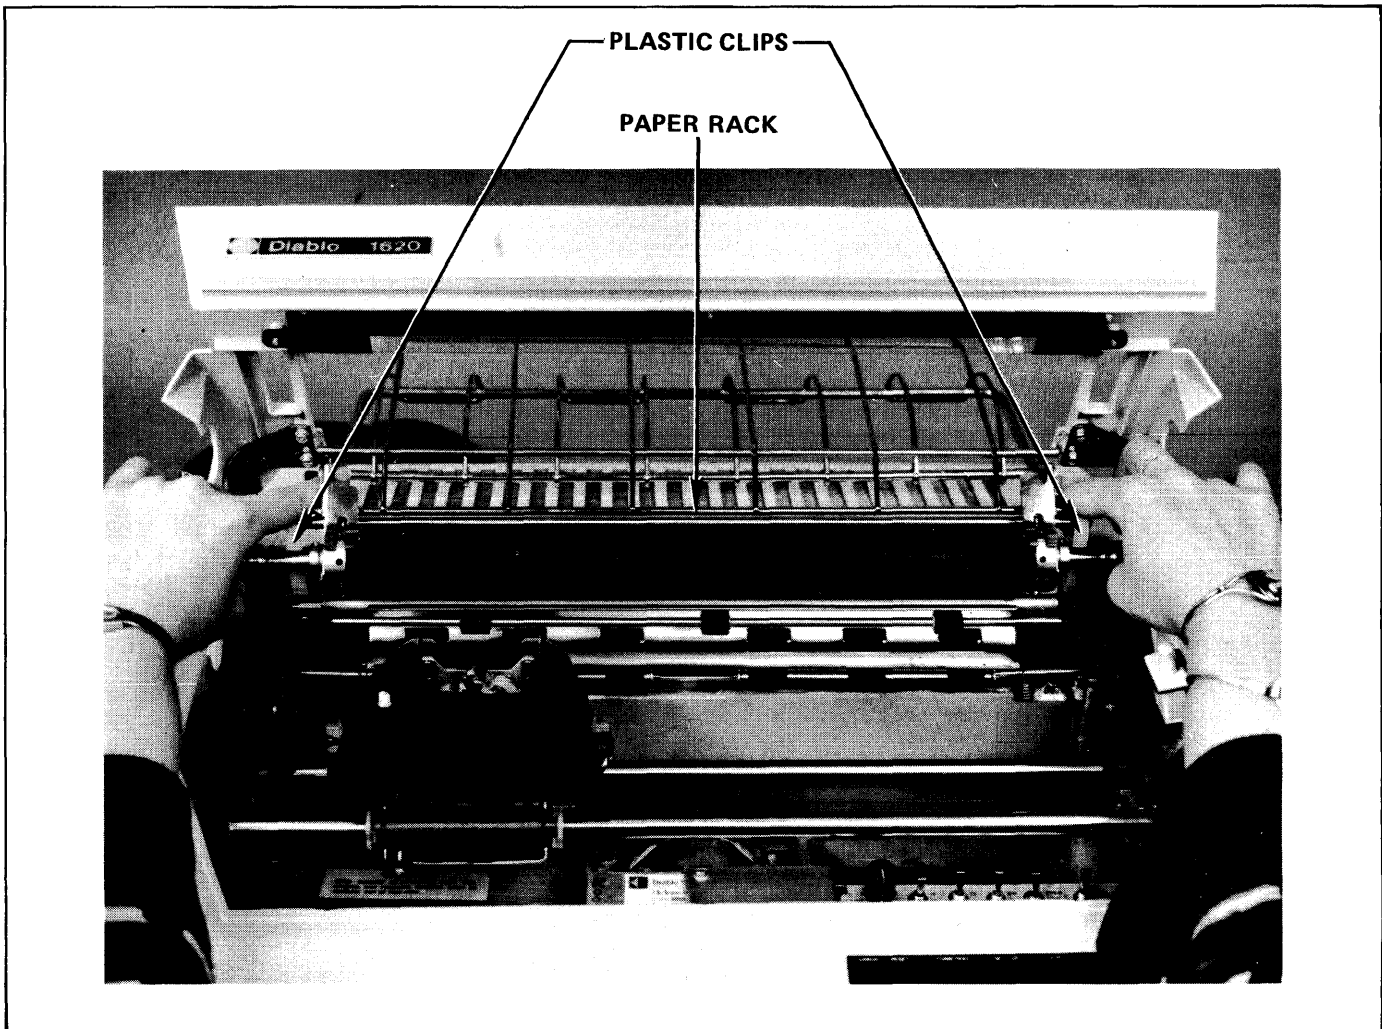
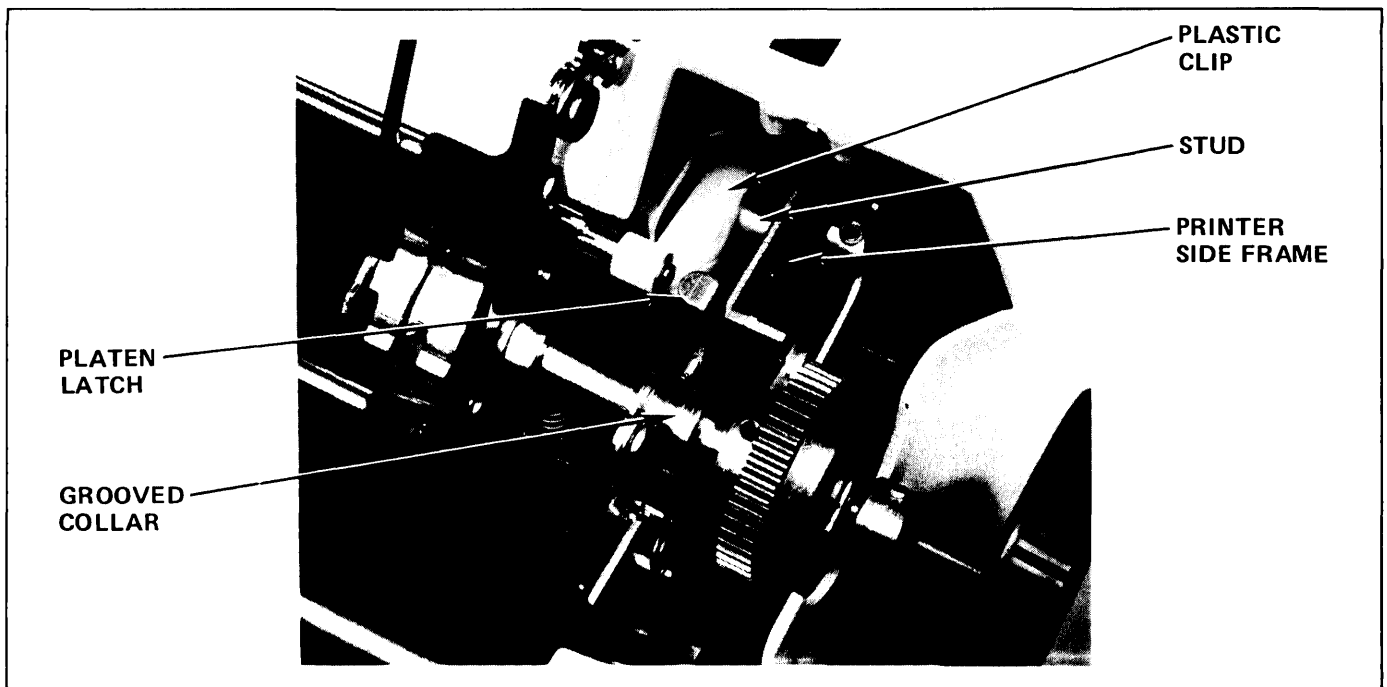

Figure 2-14. Pin-Feed Platen Installation
Figure 2-15. Plastic Clip and Stud
- (1) Lift or remove the printer access cover to expose the area of the platen.
- (2) Pull the paper bail lever and paper release lever forward toward the keyboard.
- (3) Holding the pin-feed platen in both hands, with the drive gear on the right, and with the forefingers supporting the pin feed paper clamps and the paper rack, lower the platen into the printer and position it so that the white plastic clips hang down behind the platen shaft as shown in Figure 2-14.
- (4) While guiding the plastic clips into the areas behind the platen and to both sides of the printer top cover, lower the platen so that its grooved collars rest on the platen latches.
- (5) Position each of the plastic clips against the stud mounted to the printer side frame. Push the clip until it snaps into place around the stud, as shown in Figure 2-15.
- (6) Press the platen latches and push the pin-feed platen down into the locked position.
- (7) Rotate the platen in both directions to make sure it is held firmly by the platen latches.
- (8) Close or replace the printer access cover and platen skirts.